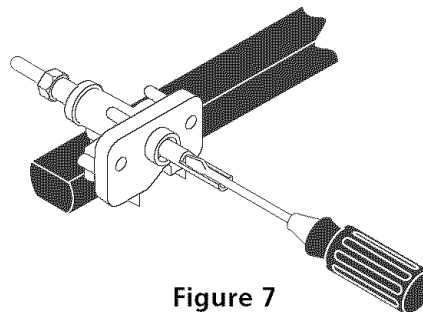

Figure 7
4. Adjust the "LOW" Setting of Surface Burner Valves (see Figure 7)